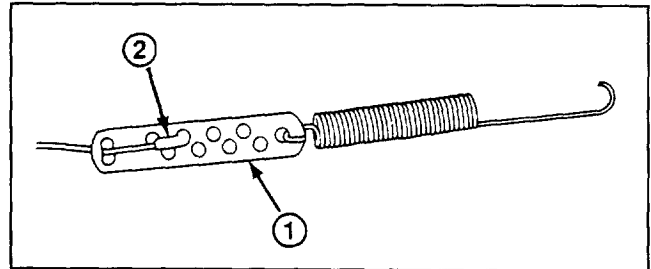

Figure 10
3. **ADJUST CABLE** (Fig. 10)—Unhook spring end from the bottom hole in control bar bracket. Slide